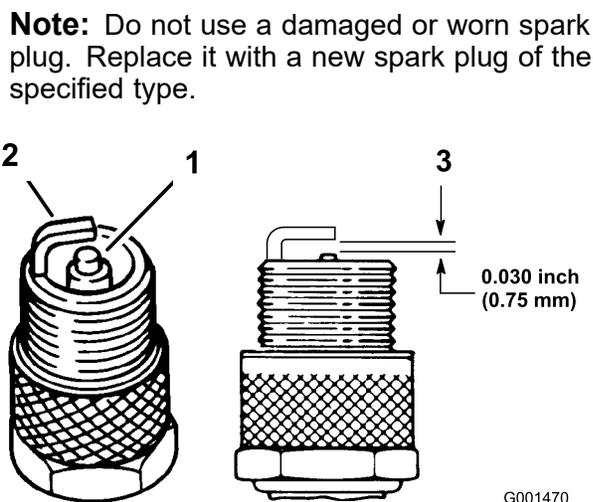

Figure 41
4. Check the condition of the side electrode, center electrode, and center electrode insulator to ensure that there is no damage (Figure 41).
5. Set the air gap between the center and side of the electrodes at 0.762 mm (0.030 inch) as shown in Figure 41.